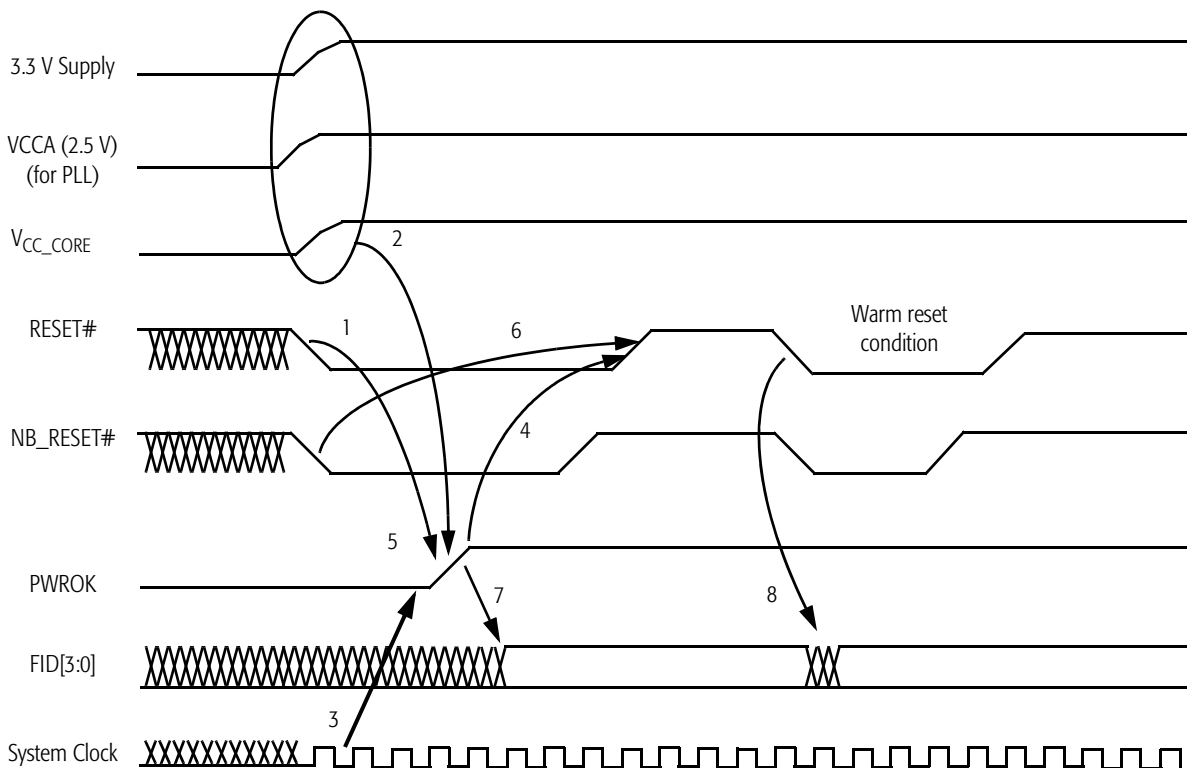

Figure 11. Signal Relationship Requirements During Power-Up Sequence
Figure 11 shows the relationship between key signals in the system during a power-up sequence. This figure details the requirements of the processor.
- Figure 11 represents several signals generically by using names not necessarily consistent with any pin lists or schematics.
- Requirements 1–8 in Figure 11 are described in “Power-Up Timing Requirements” on page 42.